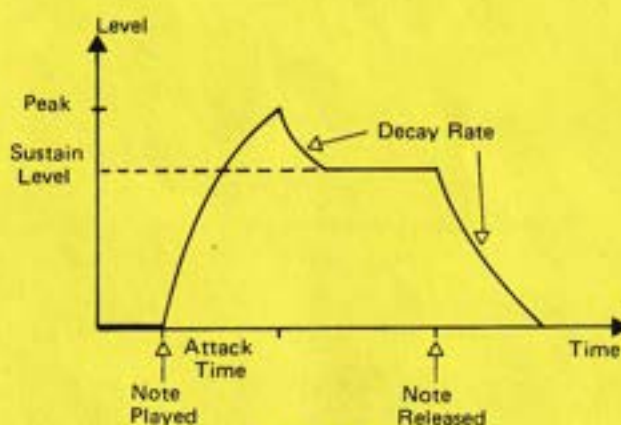

Fig. 13
This is of the attack-decay-release-sustain type. Figure 13 shows exactly what is happening with the VCA envelope. When a note is played the envelope is triggered and the volume of the output from the WASP increases at a rate determined by the ATTACK control (19). It reaches a peak then decays to a level determined by the SUSTAIN LEVEL control (23), decaying at a rate set by the DECAY release control (21).